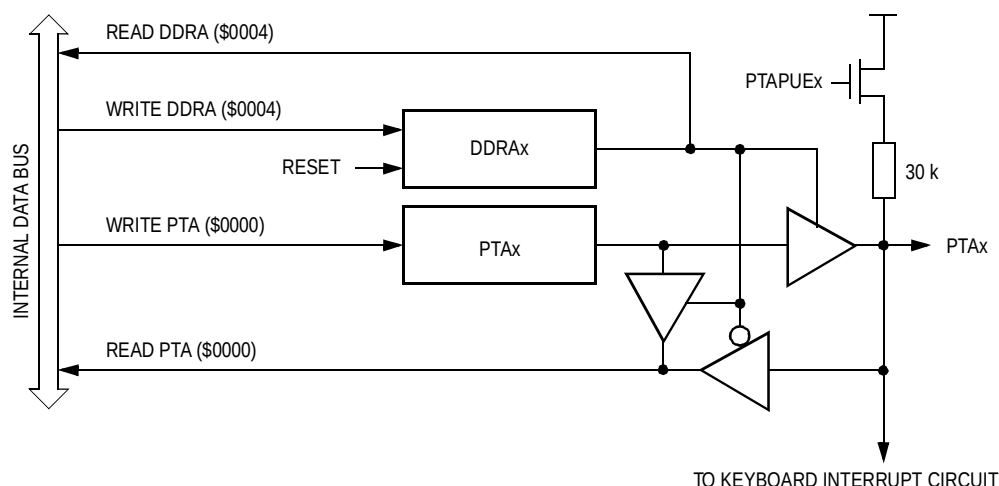

**Figure 12-4. Port A I/O Circuit**
**Figure 12-4** shows the port A I/O logic.
**NOTE:** *Figure 12-4 does not apply to PTA2*